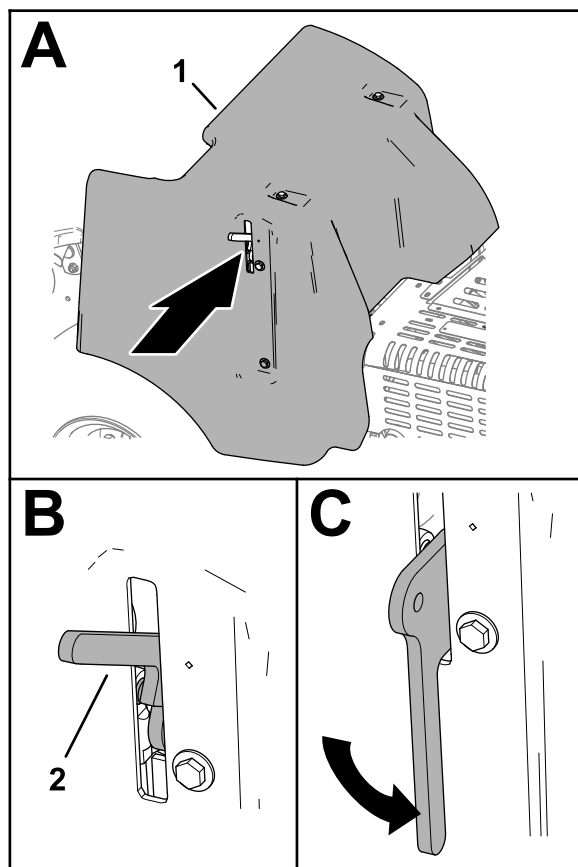

Figure 135
3. Fully lower the latch handle to secure the cover (Figure 135).